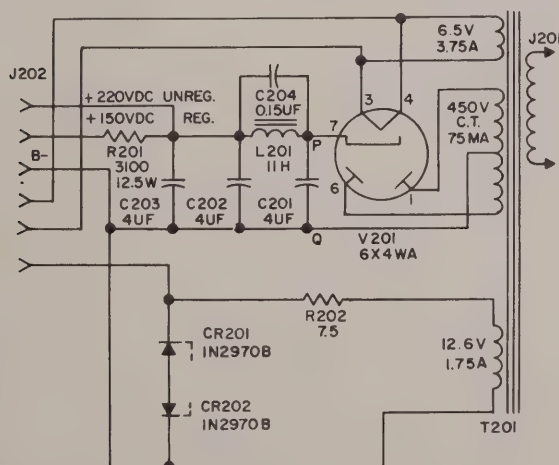

Figure 2-12A. Simplified Schematic Diagram of the Power Supply PP-977A/URM-25D
d. For power supply PP-977A/URM-25D (part of AN/URM-25G), the filament supply to V101 and V105 is regulated by means of Zener diodes CR201 and CR202, resistor R202, and the 12.6-volt winding on transformer T201 (figure 2-12A). The Zener diode performs a function similar to that of the regulator tube except at lower voltages. A Zener diode is operated in the reverse breakdown (or avalanche) region in which the diode maintains a constant voltage over a wide range of current. Approximately half of the voltage from the 12.6-volt winding of T201 is dropped across resistor R202. If the voltage increases, the current through CR201 or CR202 increases, increasing the voltage drop across R202, thus maintaining the voltage constant. The converse applies for decreasing supply voltages. Two diodes are used in a "back-to-back" connection so that on either half cycle of alternating current, one diode conducts in the forward direc-